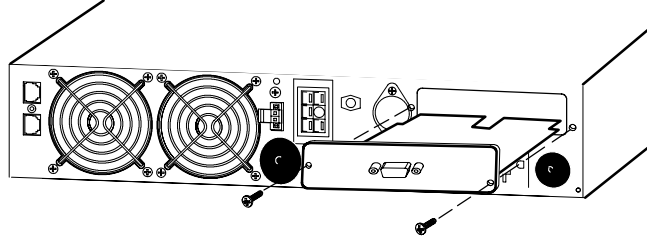

Figure 33. Removing the Single-Port Card
1. Remove the single-port card on the UPS rear panel. Retain the screws (see Figure 33).